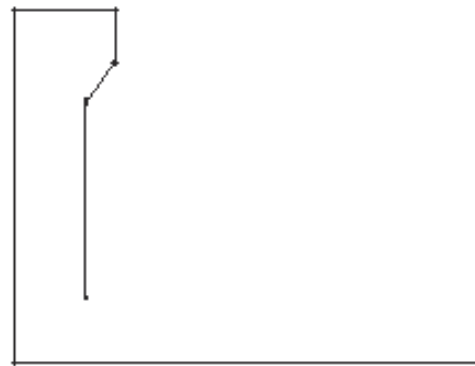

Figure 1-39 Sketch after drawing lines A to F
4. Using the left mouse button, specify the endpoint of the line as shown in Figure 1-39. You will notice that when you move the mouse, the red line extends in the vertical direction only.
5. Move the cursor upwards to size line B and using the left mouse button specify the endpoint of line B as shown in Figure 1-39. Now, when you move the mouse, you will notice that a red line extends in the horizontal direction only.
6. Move the cursor to the right on the graphics screen and using the left mouse button specify the endpoint of line C, see Figure 1-39.
the endpoint of line D as shown in Figure 1-39.
11. Using the left mouse button, specify the endpoint of line E, see Figure 1-39.
13. Using the left mouse button, select the endpoint of line E as the start point for line F. Move the mouse to size the line and use the left mouse button to specify the endpoint of the line. Line F is completed as shown in Figure 1-39.